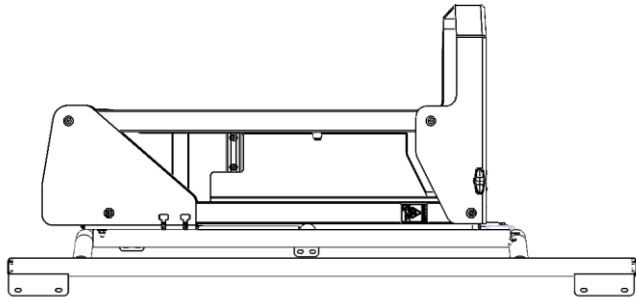

Figure 1: Power Lift Placed on Base Unit
2. Loosely place the Power Lift lower assembly on the Base Unit as shown in Figure 1.